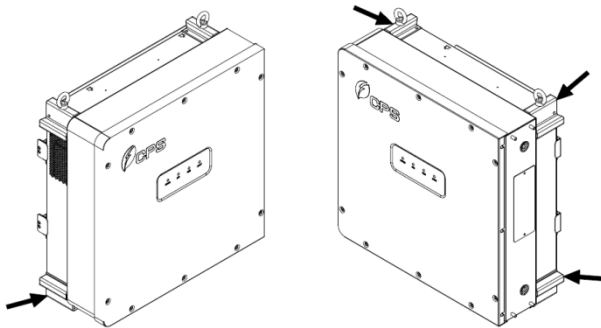

Figure 3-12 Grab Handle Position
- B. Manual mounting: Two people are needed to properly lift by the handle positions marked in **Figure 3-12** and mount the inverter onto the bracket.